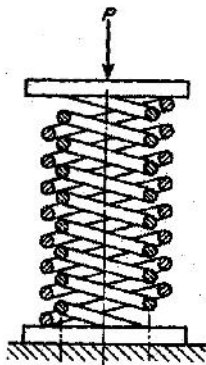

Fig. Q3b
- (b) Two close-coiled helical springs wound from the same wire with same number of coils but with different mean coil radii are coaxially assembled as shown in Fig. Q3b and compressed between rigid plates at their ends. Calculate the maximum shear stress induced in each spring if the wire diameter=12 mm and $P=500$ N. The mean coil diameters for the outer and inner springs are 100 mm and 75 mm respectively.